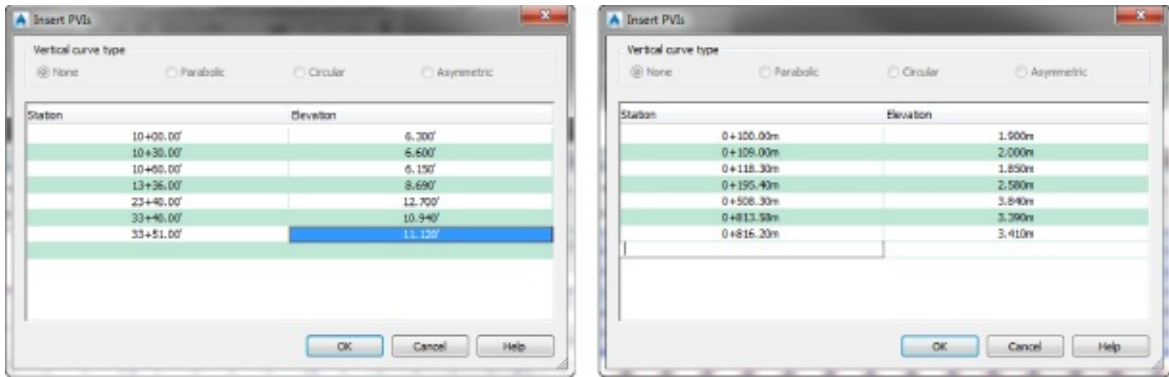

Figure 16.12 Profile data Imperial (left) and metric (right)
- 14. Enter the data for your unit system, as shown in Figure 16.12; then click OK.